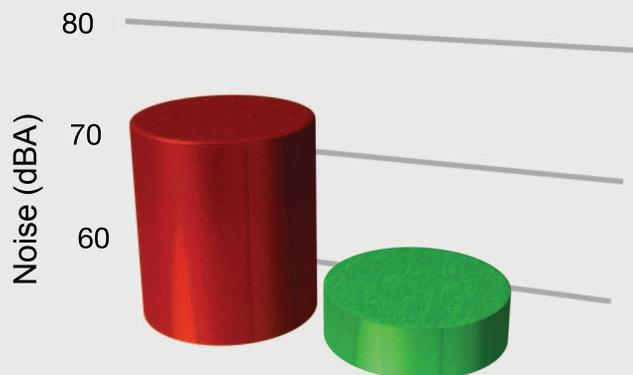

Figure 4. Impact of XYO on noise emission of washing machine
- ▶ Figure 4 shows the noise reduction with the XYO balancer installed